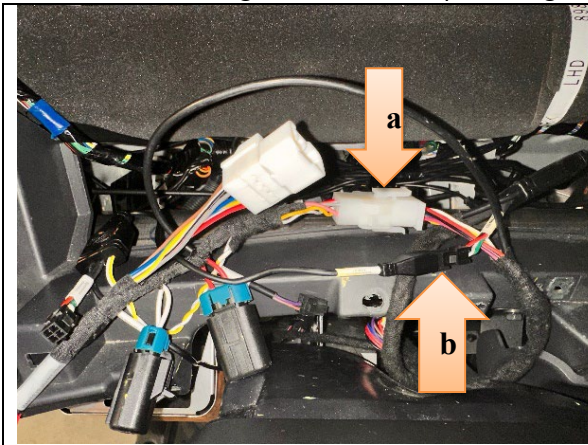

Figure 71
- a. **Mobileye 6:** Connect the camera cable to the T-Harness connector MH-2 and EyeWatch input connector MB-3. (See Figure 71.)